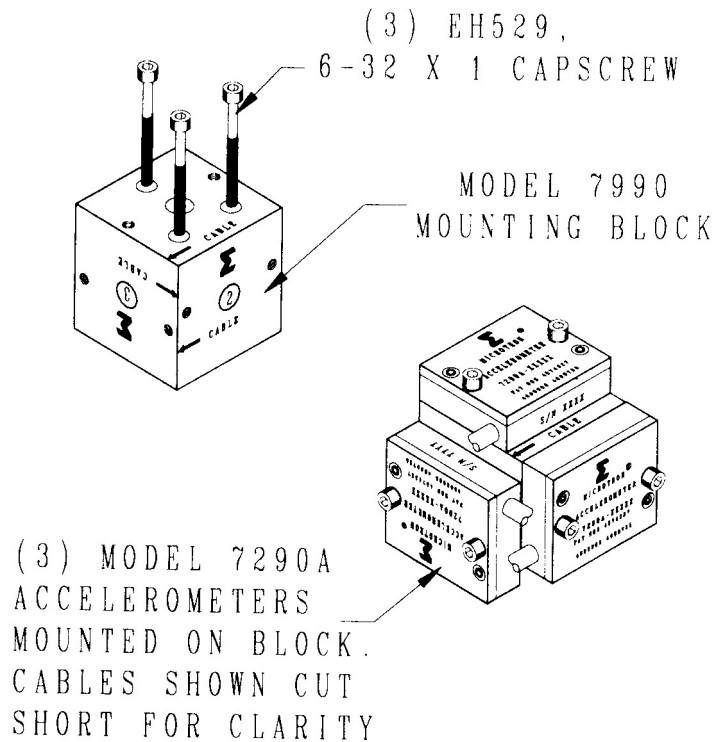

FIGURE 2- Installation of (3) Model 7290A Microtron Accelerometers onto Model 7990 Triaxial Block
7. For triaxial acceleration measurements, the Model 7990 Mounting Block is attached to the mounting surface with three (3) 6-32 x 1 inch socket head cap screws as shown in Figure 2, with subsequent attachment of the (3) Model 7290A Microtron Accelerometers per steps 2 through 6 above.